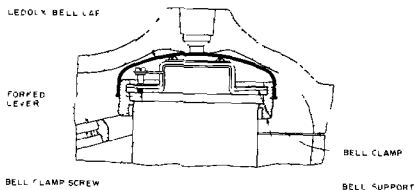

FIGURE 5 Ledoux Bell Cap for Air and Gas Flow Measurement
1. For air or gas flow measurement only, press Ledoux bell cap (Figure 5) firmly over top of bell. Make certain cap does not rub against forked lever thru its full range of travel.